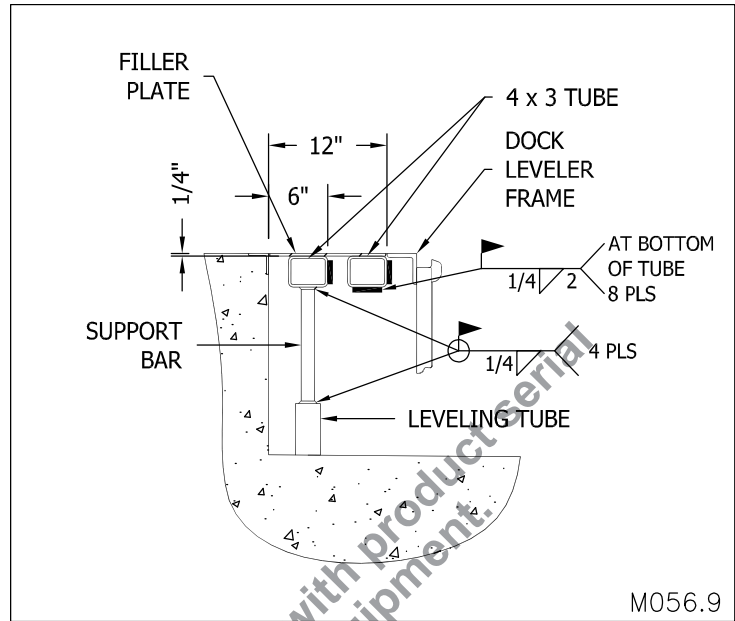

Figure 27: Welding the 4 X 3 Rectangular Tubing to the Curb Angles
4. — Slip the levelling tubes over the support bars and lightly tack in place so that it does not fall off while inverting the rectangular tube as indicated in "Figure 27: Welding the 4 X 3 Rectangular Tubing to the Curb Angles" on page 25.
5. — Position the 4 X 3 inch rectangular tubes as indicated in "Figure 27: Welding the 4 X 3 Rectangular Tubing to the Curb Angles" on page 25. Make sure the top surface of the rectangular tube is 1/4" below the top surface of the curb angle. This will allow the filler plate to be welded flush to the top surface of the curb angle.
6. — Weld the ends of the rectangular tubing to the side curb angle as indicated in "Figure 27: Welding the 4 X 3 Rectangular Tubing to the Curb Angles" on page 25. Add vertical welds at the ends of the tube between tube surface and side curb angle surface.
8. — Weld the levelling tubes to the support bars using full fillet welds as indicated in "Figure 27: Welding the 4 X 3 Rectangular Tubing to the Curb Angles" on page 25.